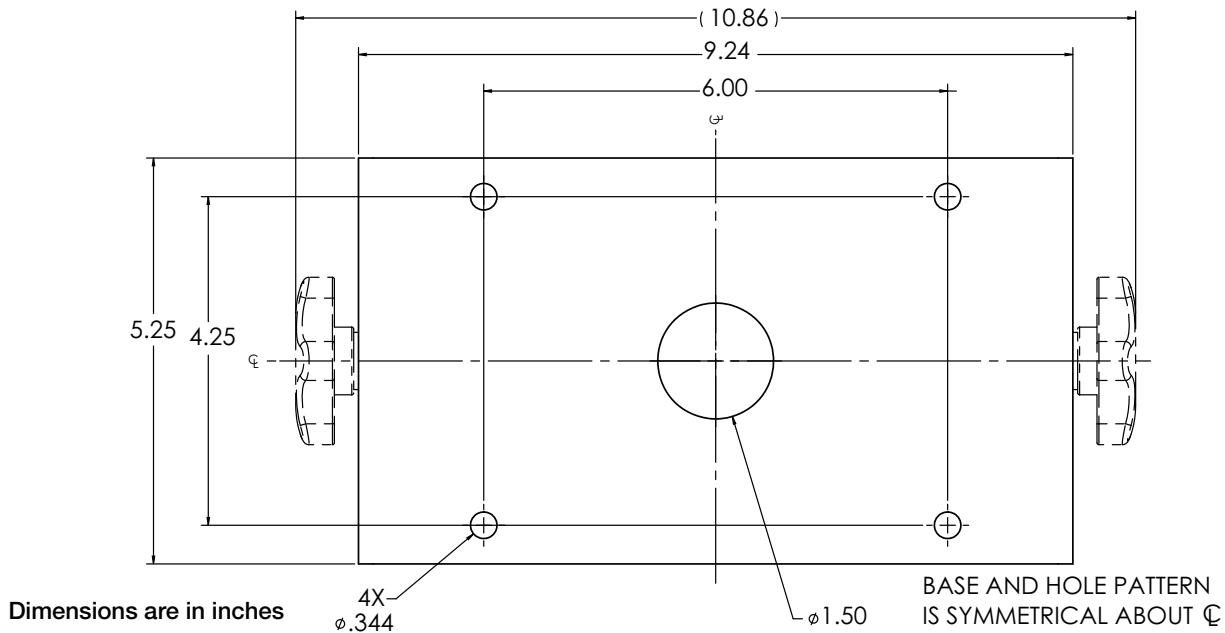

Figure 2-5. Universal Surface Mount Stand Dimensions
1. Using the tilt stand as a template, mark the screw locations. See Figure 2-5 for dimensions.
Important This illustration is not to scale. It is for illustration purposes only. Use the dimensions to mark the holes for the universal mount, or use the bottom of the tilt stand as a template. Do not use Figure 2-5 as a template.